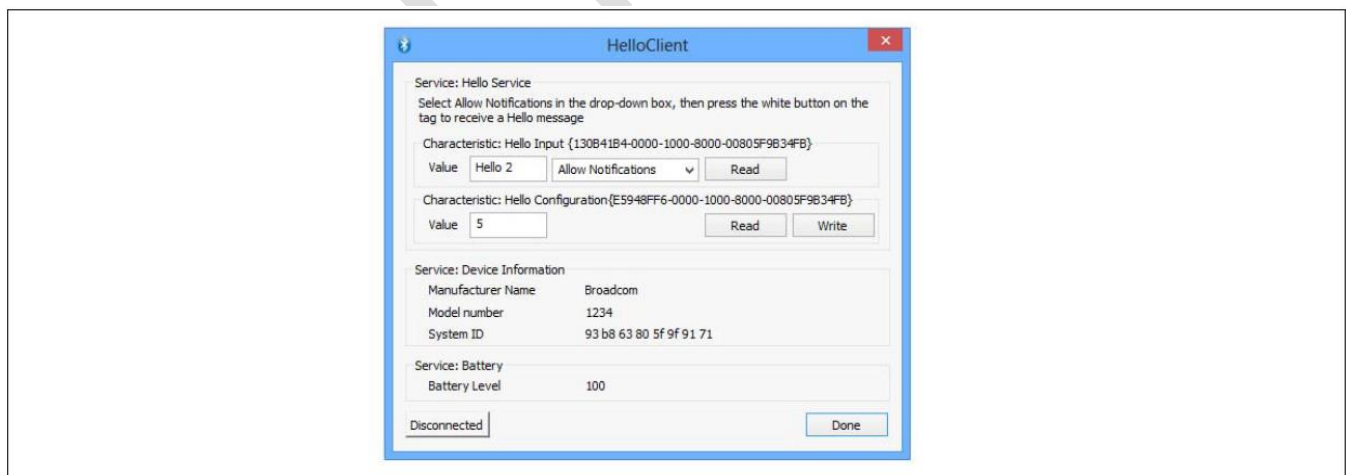

Figure 9: Hello Client Services Window
- The Hello Configuration read-write characteristic is used to configure how many times a LED on the tag blinks (see Figure 9) when the **Application** button is pressed.
To test the application with a WICED development board, follow the instructions provided for each of the Hello Service characteristics (see Figure 9, below).